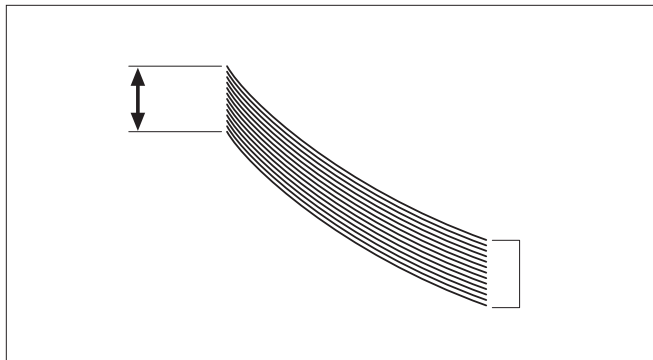

Figure 10. Shingle a Small Stack of Envelopes By Hand
1. Grasp a handful of envelopes, approximately 2 to 2.5 in. (5 to 6 cm) thick, and shingle the edges with your thumb (Figure 10).